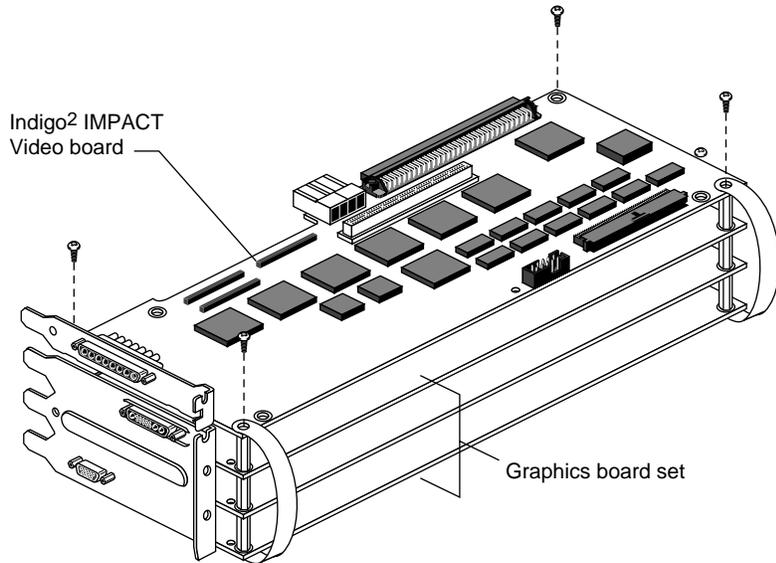

Figure 3-3 Removing the Video Board Screws
3. Remove the four screws that attach the video board to the graphics board set. See Figure 3-3.